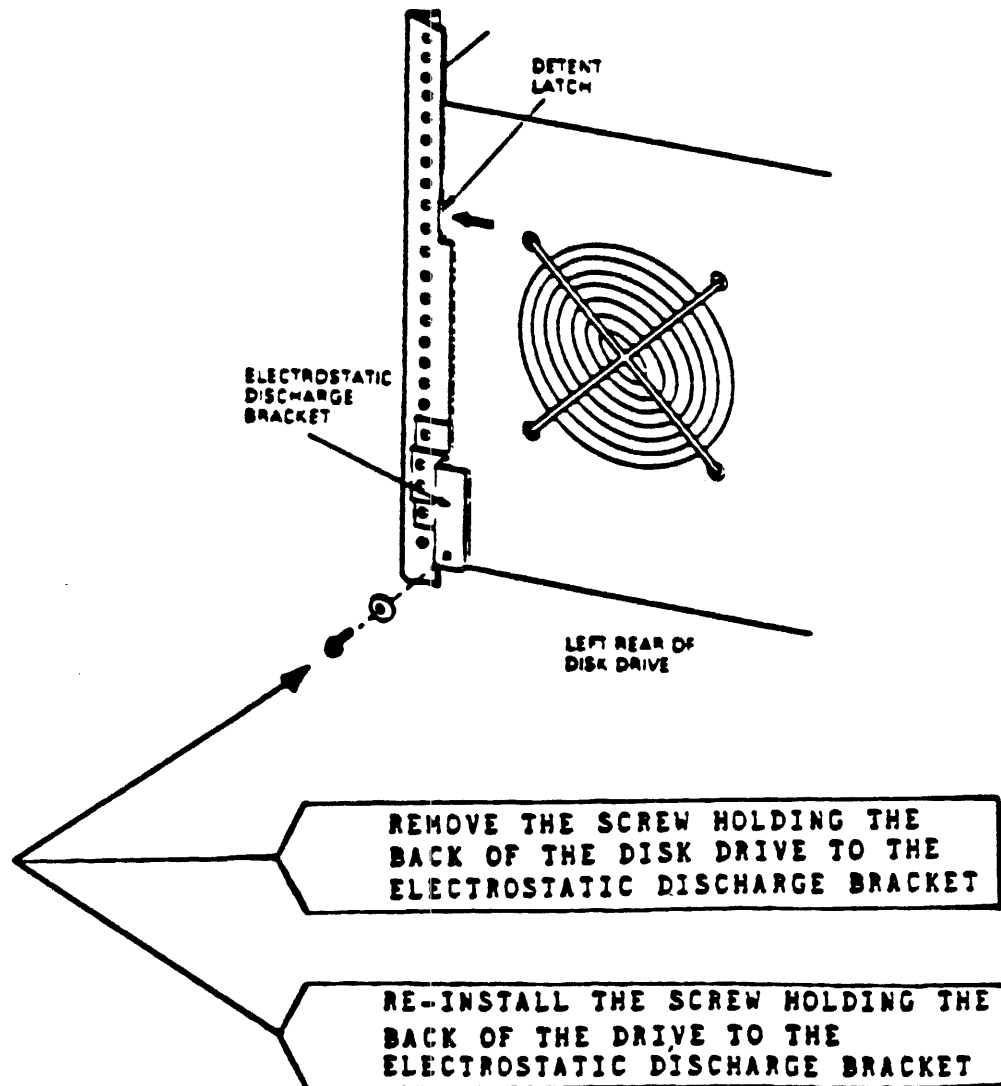

FIGURE 4
14. Reinstall the screw holding the back of the Drive to the electrostatic discharge bracket. (Figure 4)